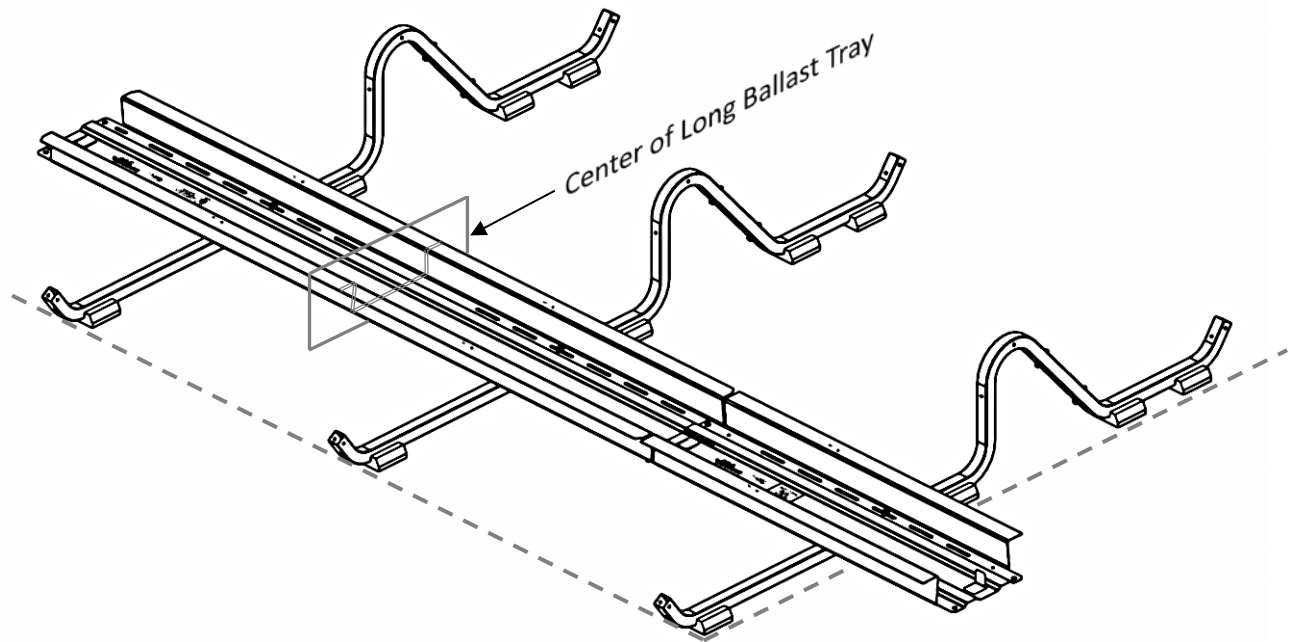

Figure 4 Ballast Tray to South Supports
7. Using appropriate Ballast Tray slots, bolt the Ballast Tray assembly to the South Supports. Torque bolts to 4 ft-lbs. Use the spacer stick to keep the Ballast Tray perpendicular to the Supports. Note: ensure Long Ballast tray is centered between two supports (Figure 4).